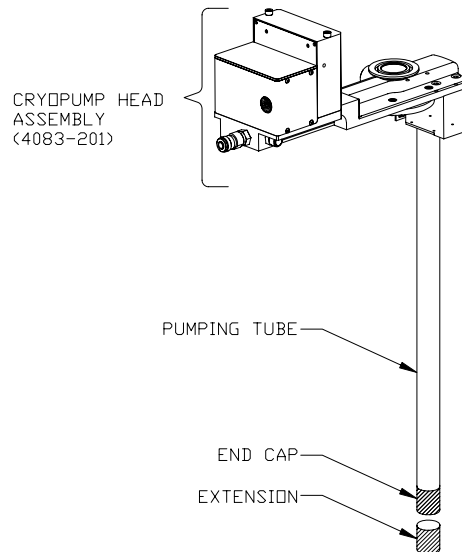

Figure 2. Modifying the cryopump pumping tube with an extension
10. Apply a small amount of Supertherm to the contact surface of the extension and put it on the end cap of the pumping tube (see Figures 2 and 3).